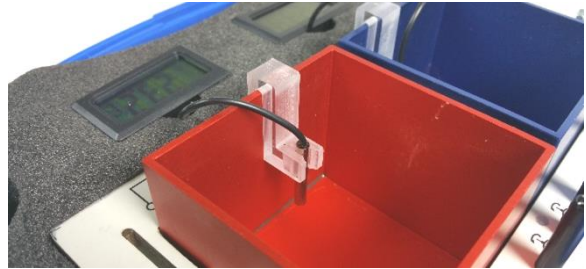

Fig.1 Alignment of temperature probes
- Line up the temperature probes for the two water reservoirs as shown in Fig. 1.